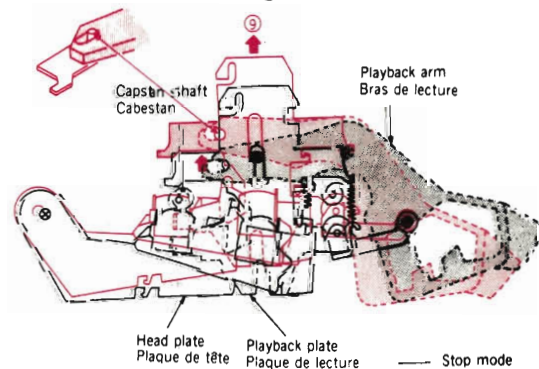
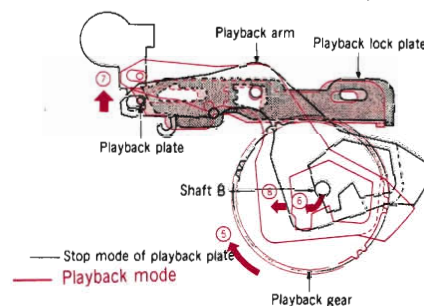

Fig. 3
Fig. 4
3) Fig. 3 shows the connection of the shaft of the playback plate and playback arm which operate the head plate and pressure roller.
Following the rotation of the playback gear, the shaft B, which is attached to the playback gear, rotates in the direction of arrow ⑥ shown in Fig. 4, whereby the playback arm slides in the directions of arrows ⑦ and ⑧, and the playback plate, which is connected via the shaft, slides in the direction of arrow ⑨ shown in Fig. 3.
4) When the playback arm slides to the position shown in color in the Fig. 4., the shaft of the playback plate is locked by means of the playback lock plate and then there is playback.